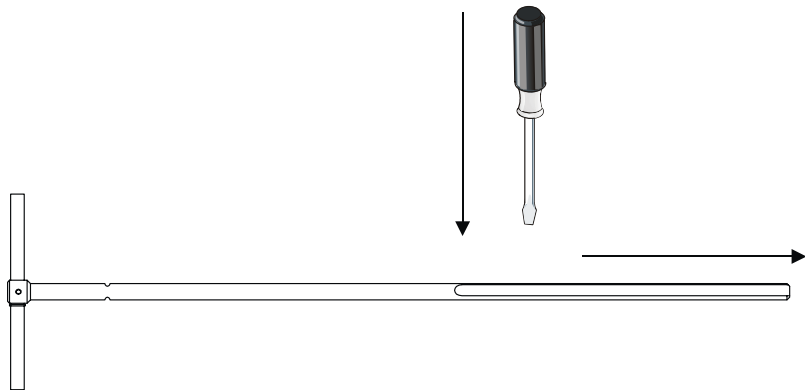

Figure 76 **Cleaning the Auger with a Screwdriver**
3. Remove soil from the auger, for example, with a screwdriver not with fingers. Refer to Figure 76 on page 88.